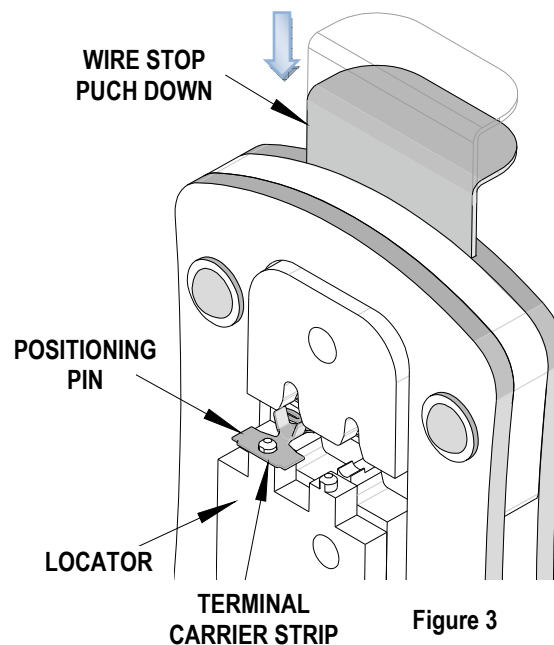

Figure 3
3. Place the properly stripped wire into the open terminal barrel. Push the wire into the tool until the end of the wire contacts the wire stop, making sure that all wire strands are inside of the conductor barrel. See Figures 3 and 4.